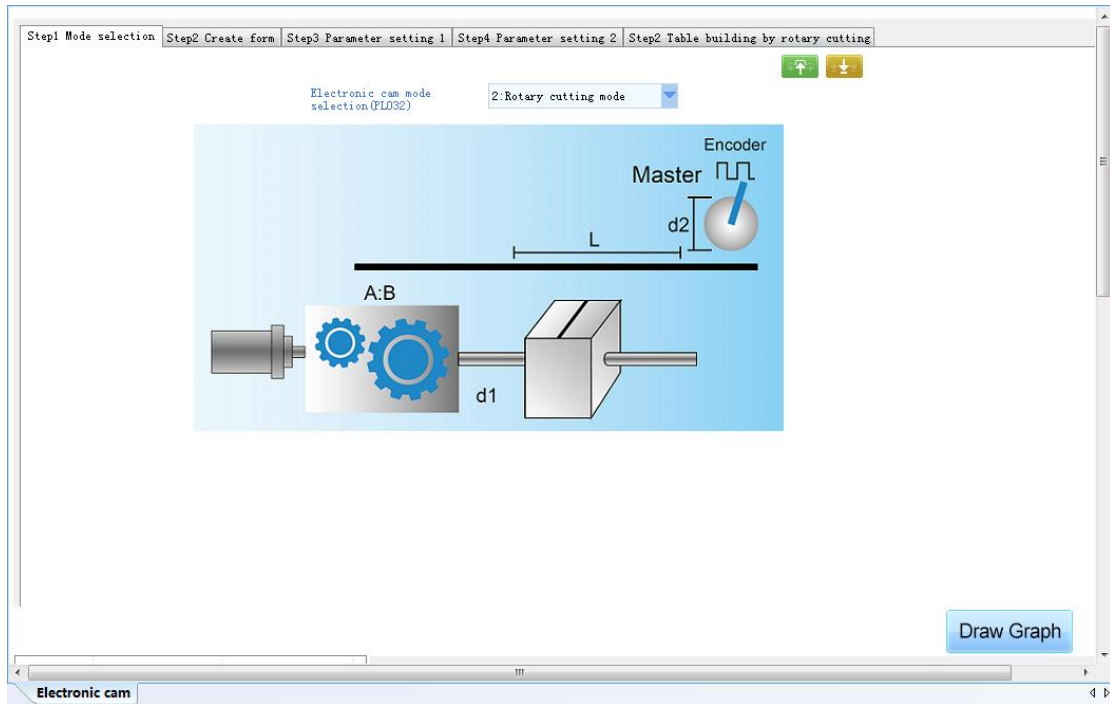

Fig 3-1-22 Electric cam main interface
1) First, select "electronic cam mode" in the main interface. (Fig 3-1-22)